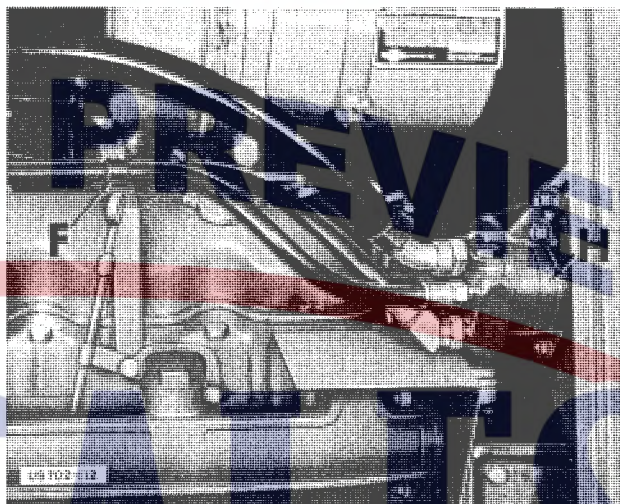

Fig. 5
9. Remove the hydraulic pump bracket with pump attached as follows: "H", Fig. 5.
- b. Detach the hydraulic hoses from the support bracket above the valve rocker arm cover. "F", Fig. 5.